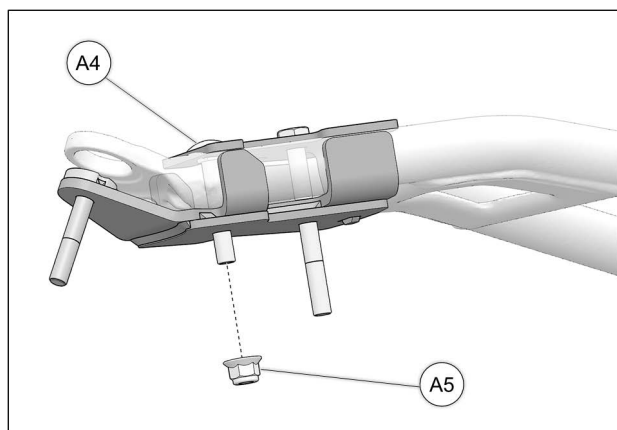

Fig. 16
7. Secure M10x65mm carriage bolt (**A4**) with supplied M10 nut (**A5**), as shown below. Tighten assembly to 50 Nm [37 lb•ft] of torque. See Fig. 16